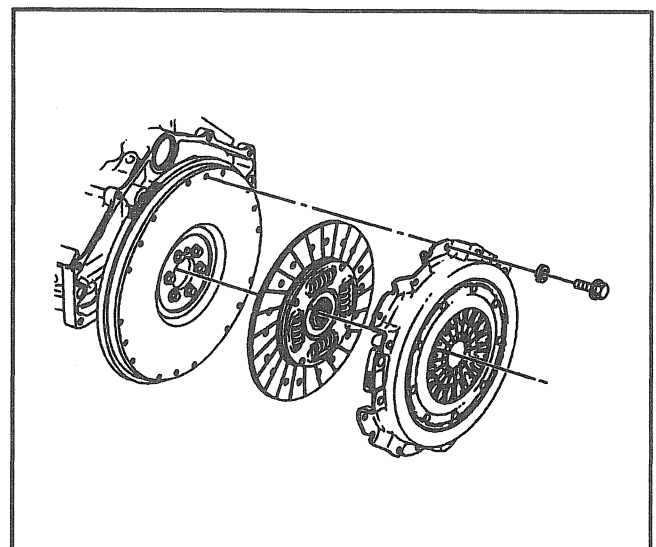

Figure 8—Flywheel, Clutch Plate, and Clutch Cover
1. Clutch cover bolts and washers (Figure 8).
- Install J 33169 clutch alignment tool or a used clutch drive gear to support the clutch cover and clutch plate (Figure 8).